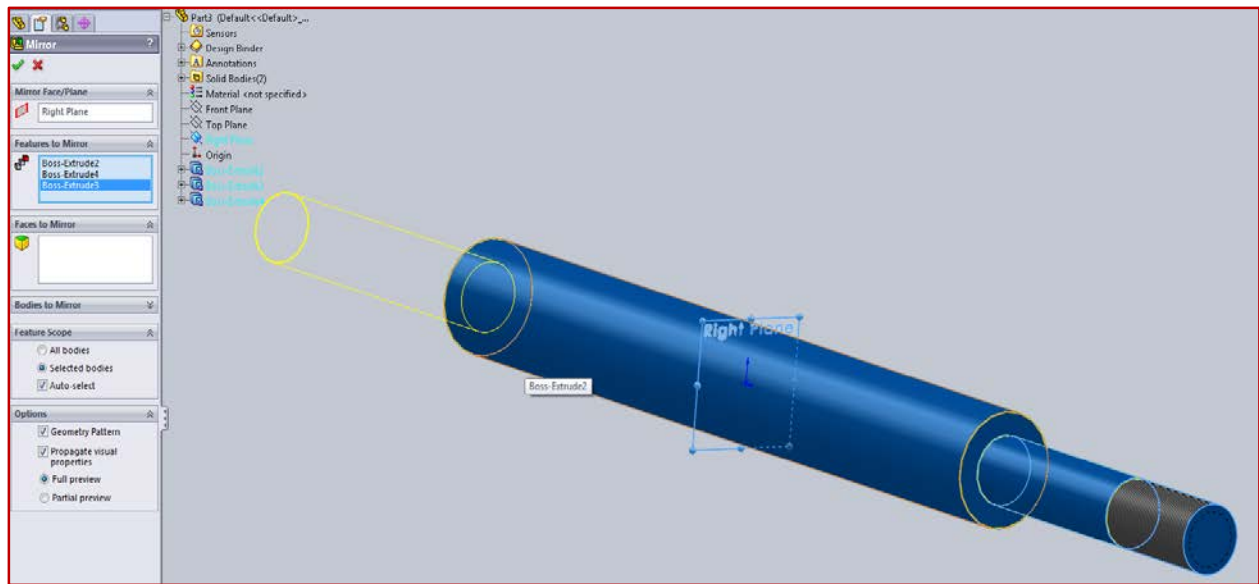

Figure 7.1 – Truck Axle
- ✓ Select the **Right Plane** as the **Mirror Face/Plane** and the latest extrusions as the **Features to Mirror**. See Figure 7.1.